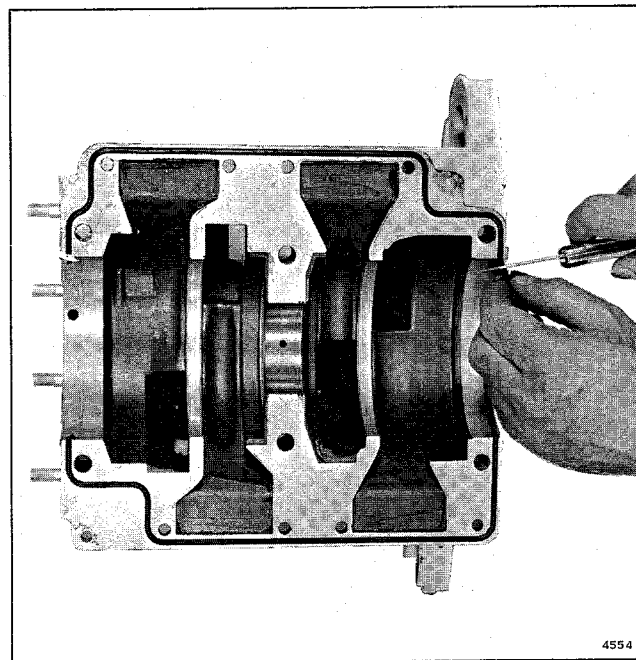

Figure 5-33. Trimming Crankcase Seal
a. The crankcase face is grooved for installation of a rubber sealing strip. The new strip should be threaded into the grooves and cut somewhat longer than actually necessary to obtain a good butt seal at both ends against the crankcase heads. Run a fine bead of Sealer 1000 cement in grooves to secure strip in position while trimming. With thumb pressure, force strip to outer edge of groove. After cement has set trim ends with a sharp knife, allowing approximately 1/32 inch of the strip to extend beyond edge of machined surface. See Figure 5-33.